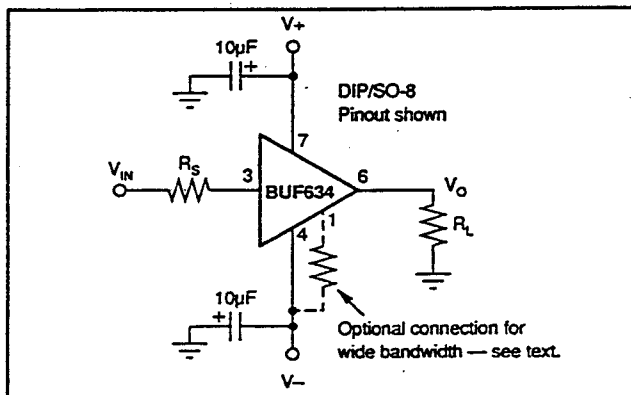

FIGURE 2. Buffer Connections.
Figure 2 shows the BUF634 connected as an open-loop buffer. The source impedance and optional input resistor,  $R_S$ , influence frequency response—see typical curves. Power supplies should be bypassed with capacitors connected close to the device pins. Capacitor values as low as  $0.1\mu\text{F}$  will assure stable operation in most applications, but high output current and fast output slewing can demand large current transients from the power supplies. Solid tantalum  $10\mu\text{F}$  capacitors are recommended.
(1) Controlling dimension: Inch. In case of conflict between the English and metric dimensions, the inch dimensions control.
- (2) Dimensioning and tolerancing per ANSI Y14.5M-1982.
- (3) Dimensions A, A1, and L are measured with the package seated in JEDEC seating plane gauge GS-3.
- (4) D and E1 dimensions for plastic packages do not include mold flash or protrusions. Mold flash or protrusions shall not exceed .010 inch (0.25mm).
- (5) E and eA measured with the leads constrained to be perpendicular to plane T.
- (6) eB is measured at the lead tips with the leads unconstrained.
- (7) N is the maximum number of terminal positions.
- (8) Corner leads (1, 4, 5, and 8) may be configured as shown in Figure 2.
- (9) For automatic insertion, any raised irregularity on the top surface (step, mesa, etc.) shall be symmetrical about the lateral and longitudinal package center-lines.